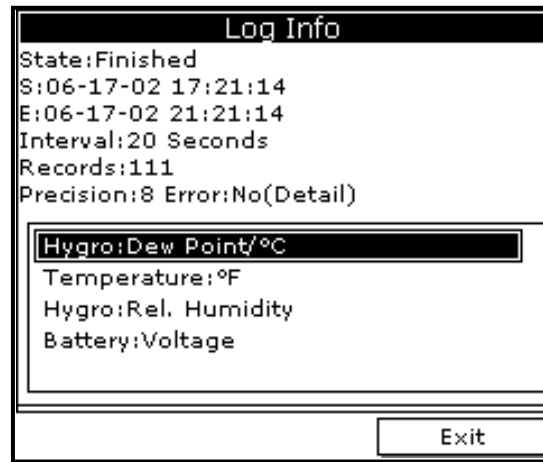

Figure 38: Log Details
4. Use the arrow key to scroll to Details and press **[ENTER]**. A screen similar to *Figure 38* on page 46 appears.